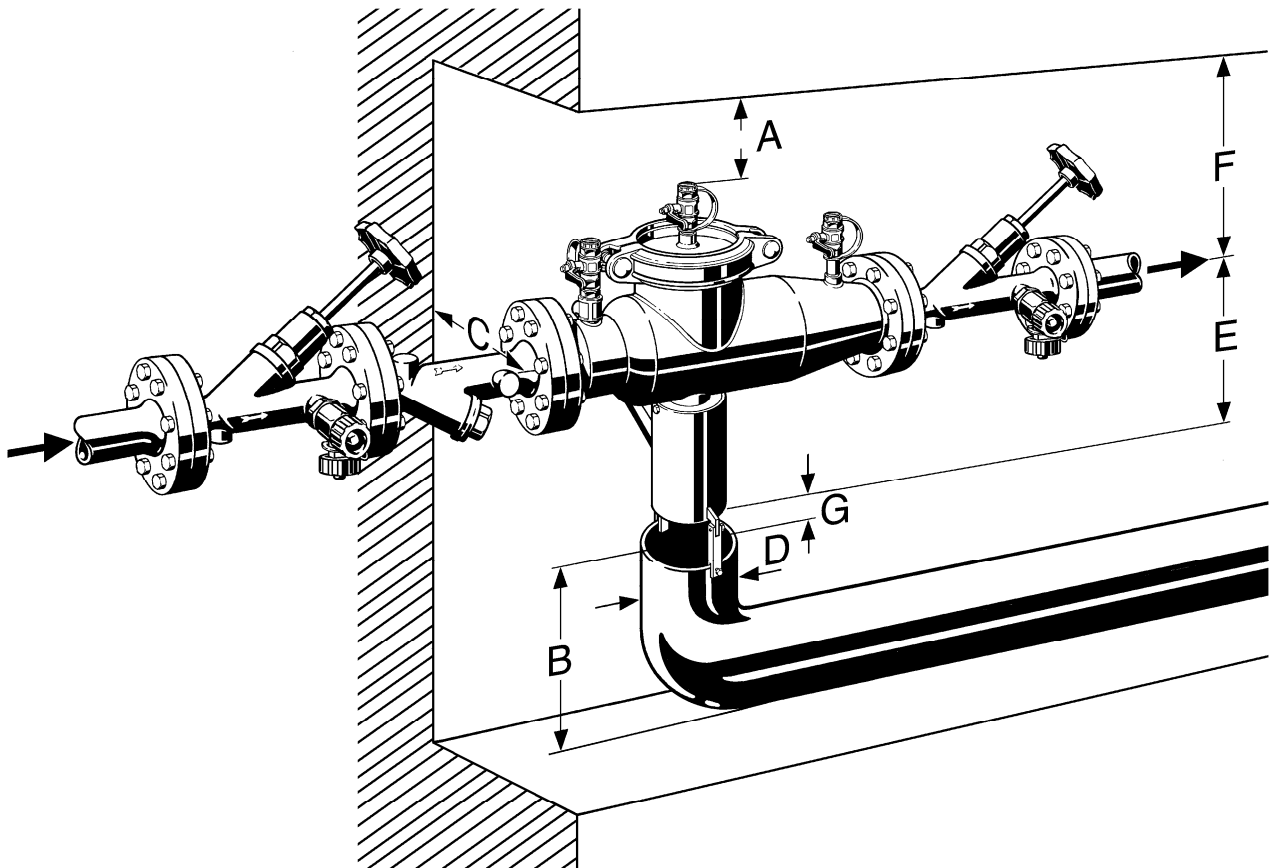

Figure 3: BA Backflow Preventer protection device with installation prerequisites and dimensions.
3. Install backflow preventer as in Figure 3. While doing so, comply with the following points and those in Chapter 3.1: